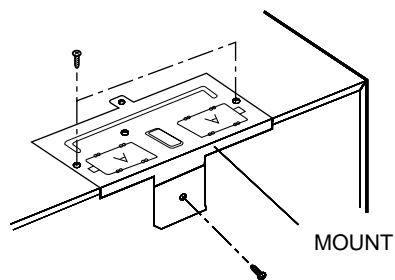

Figure 17
- (2) Remove the two screws securing the MOUNT and one screw securing the ventilation fan ASS'Y. (See Figure 17)